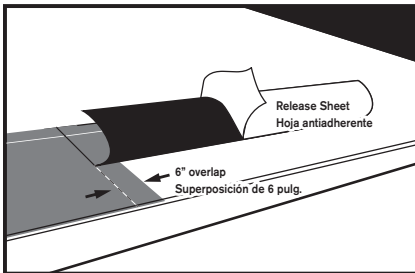

Figure 3 Figura 3
(D) Along the eave edge, align the underlayment flush with the drip edge. Fold the underlayment away from the edge onto itself. Remove the lower half of the release sheet, starting at the middle of the underlayment to the edge. (See Figure 3)